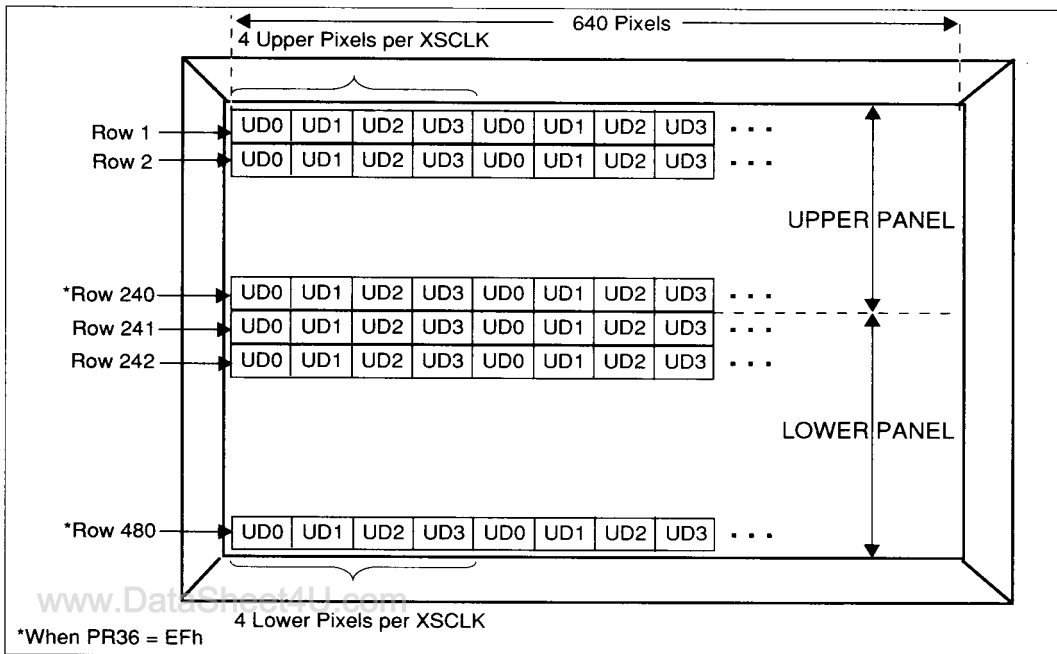

FIGURE 6-23 DUAL PANEL LCD DATA ORGANIZATION
- Dual Panel LCD Data Organization (Figure 6-23)